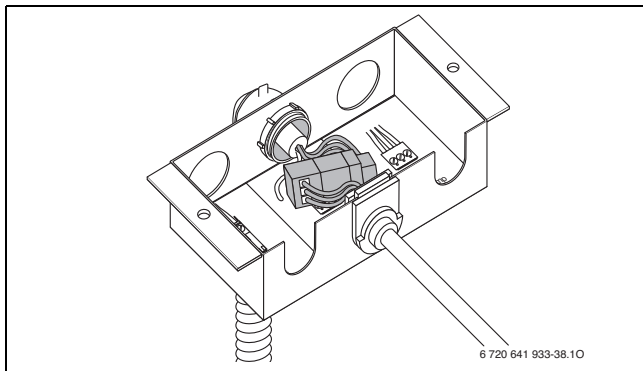

Fig. 57 Cable connected (external DHW tank loading pump or 3-way valve)
- Insert cable into the junction box as shown in Fig. 57.